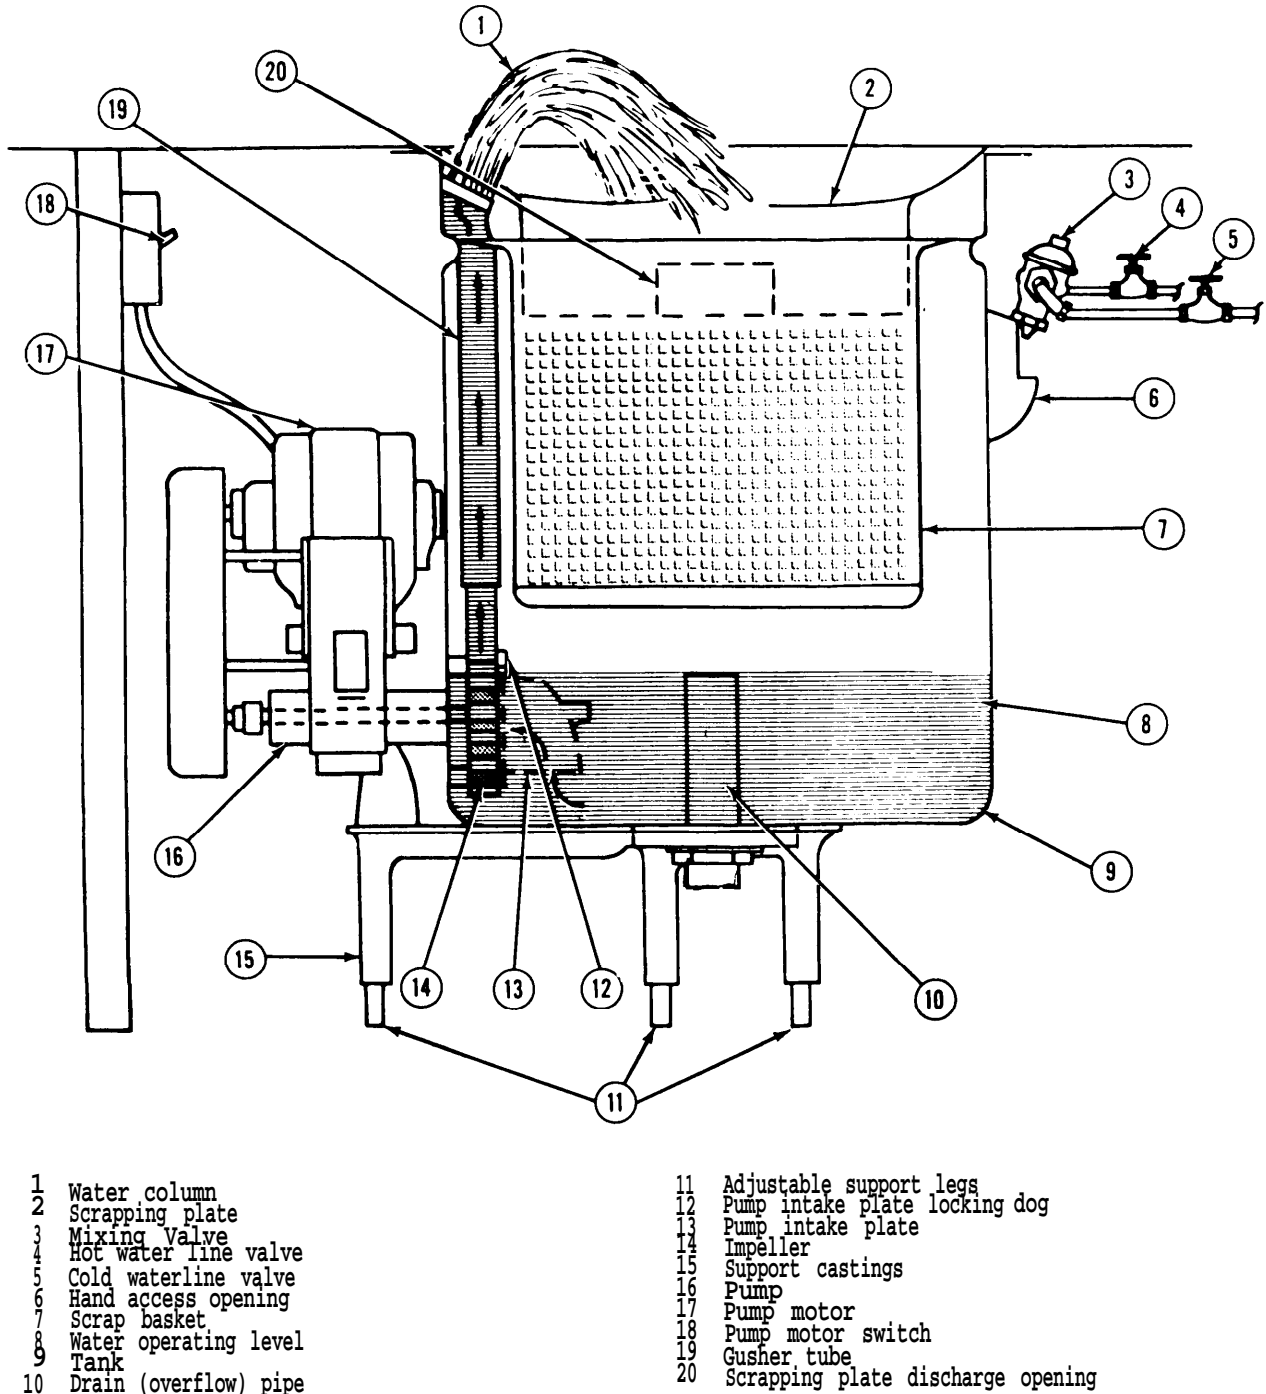

Figure 11 - Preflushing Machine
Description.- The preflushing machine (Figure 11) should conform to requirements of MIL-P-12390. It is used to remove most of the food particles and grease from tableware items and serving trays just before they are racked and placed in a dishwashing machine for washing and rinsing. Excess food particles or refuse should be removed from tableware and utensils by using the rubber bumper operation (see Section III-C). The preflushing machine is connected to the water system by means of a mixing valve (Item #3, Figure 11). The mixing valve has one fitting for connection to a hot water line and one for connection to a cold water line. When the machine is installed, each line is provided with a control valve. These valves (Items #4 and #5, Figure 11) are operated to mix hot and cold water in the blender in quantities required to maintain a flush water temperature of about 115°F + 5°F. The proper and improper preflushing procedures are shown in Figures 11 through 15. DO NOT USE SOAP.
(a) The components of the scrapping system normally consist of a scrapping plate (Item #2, Figure 11), a scrap basket (Item #7, Figure 11) and a tank (Item #9, Figure 11). Food scraps from tableware and serving trays are scrapped onto the scrapping plate where they fall into the scrap basket and are trapped. The tank supports the scrapping plate and scrap basket and also acts as a reservoir for the flush water. The tank, scrapping plate, and scrap basket are of stainless steel. The top of the tank is provided with a mounting flange that is secured to the underside of the dish table.
(b) The components of the flushing system consist of an electric motor (Item #17, Figure 11) which drives a rotary pump (Item #16, Figure 11) by means of pulleys and belt. The pump impeller (Item #14, Figure 11) drains water from the tank into the pump intake plate (Item #13, Figure 11) and forces it through the gusher tube (Item #19, Figure 11). The height of the water column above the gusher tube is adjustable (see para. 1b(2) ).
(1) Pump motor switch. - The pump motor switch (Item #18, Figure 11) turns the motor on.
(2) Pump intake plate. - The pump intake plate (Item #13, Figure 11) controls the height of the water column from the gusher tube. When properly adjusted, the water column should fall into the center of the scrapping plate, if the machine is equipped with a scrapping plate. To adjust the pump intake plate, proceed as follows:
(b) When the nearest full turn has been made (pump intake plate opening must be in down position), lock intake plate in position with locking dog (Item #12, Figure 11).
(b) Place fingers of one hand into hand access opening (Item #6, Figure 11) and into stream from blender.
(d) Install drain (overflow) pipe (Item #10, Figure 11) in tank drain opening.
(e) Install scrapping plate (Item #2, Figure 11) on top of tank (Item #9, Figure 11). Turn on switch (Item #18, Figure 11) to start pump motor. If water column from gusher tube (Item #19, Figure 11) does not fall close to center of hole in scrapping plate, adjust pump intake plate (see para. 1b Controls). When proper adjustment has been obtained, remove scrapping plate.
(f) Lower scrap basket (Item #7, Figure 11) into tank. Be sure that insert on rim of scrap basket is over gusher tube.